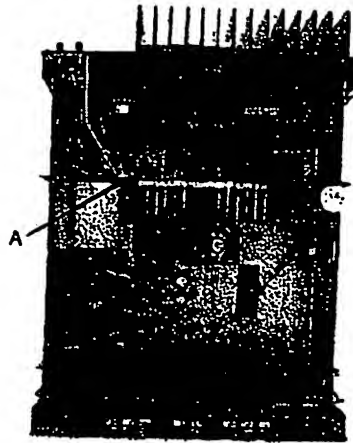

Figure 9.
Significant changes in the supply voltage setting, such as from 110/120V to 220/240V, will require a change in two internal fuses. Fuses F400 and F402 are located on the power supply board. Figure 9 shows the location of the power supply board in the CMC-III chassis.
3. Remove the Phillips head screw (Item A in Figure 9) that holds the power supply board to the metal bracket.